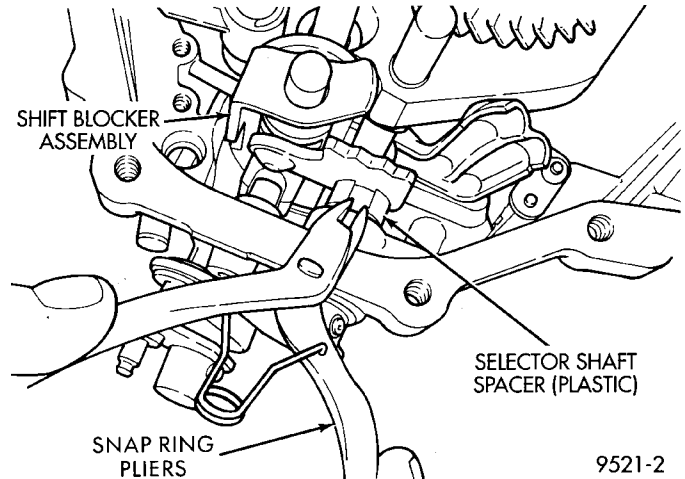

Fig. 39 Remove Selector Shaft Spacer
(9) Using snap-ring pliers, remove selector shaft spacer (Fig. 39).